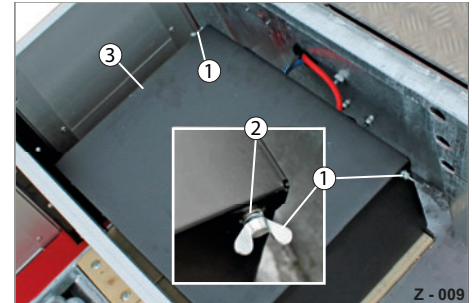

Abb. 13 Opening the battery box
- ▶ Unscrew the wing nuts (Abb. 13/1) on both sides.
- ▶ Keep the wing nuts and washers (Abb. 13/2) in a safe place.
- ▶ Fold the cover (Abb. 13/3) of the battery box up.